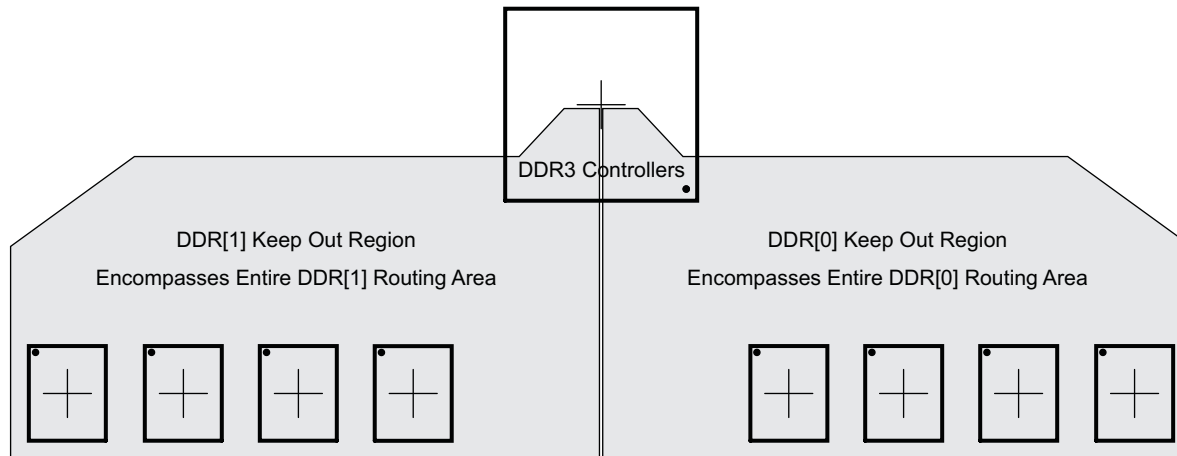

Figure 8-57. DDR3 Keepout Region
(2) Measurements from center of processor to center of DDR3 device.
(3) Minimizing X1 and Y improves timing margins.
(4) w is defined as the signal trace width.
(5) Non-DDR3 signals allowed within DDR3 keepout region provided they are separated from DDR3 routing layers by a ground plane.
(6) If a device has more than one DDR controller, the signals from the other controller(s) are considered non-DDR3 and should be separated by this specification.
The region of the PCB used for DDR3 circuitry must be isolated from other signals. The DDR3 keepout region is defined for this purpose and is shown in Figure 8-57. The size of this region varies with the placement and DDR routing. Additional clearances required for the keepout region are shown in Table 8-70. Non-DDR3 signals should not be routed on the DDR signal layers within the DDR3 keepout region. Non-DDR3 signals may be routed in the region, provided they are routed on layers separated from the DDR signal layers by a ground layer. No breaks should be allowed in the reference ground layers in this region. In addition, the 1.5-V DDR3 power plane should cover the entire keepout region. Also note that if there is more than one DDR controller, the signals from each controller need to be separated from each other by the specification in Table 8-70, item 5. Each DDR controller should have its own DDR keepout region.
Figure 8-57 is an example of a processor with two DDR controllers. Processors with a single DDR controller will have only one DDR keepout region. Each DDR controller should have its own keepout region.